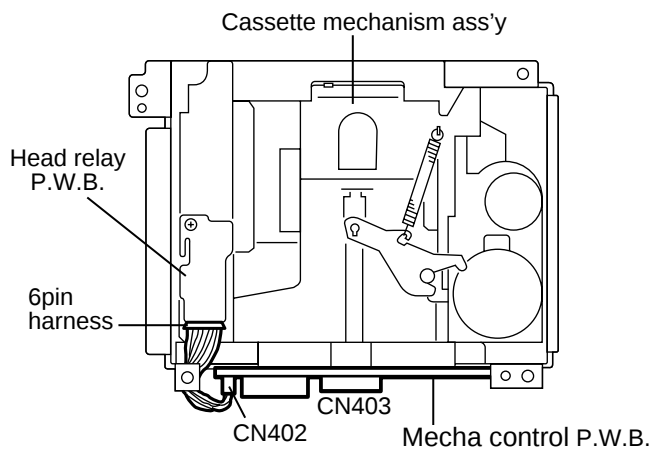

Fig.1
(See Fig.1 and 2)
■ Removing the cassette mechanism assembly (See Fig.1 to 3)
1. Disconnect the 6pin harness from connector CN402 and the card wire from CN403 on the mecha control P.W.B. (Refer to Fig.1 and 2).